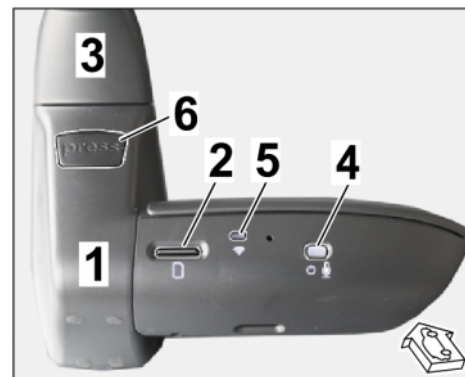

Figure 25
- 5.1.1 Remove micro SD memory card (32 GB, ⇒ *Figure 25 -2-*) from card slot for front camera.
- 5.1.2 With the ignition switched on, push the front camera (dashcam ⇒ *Figure 25 -1-*) on to the retainer plate on the wind-screen (⇒ *Figure 25 -3-*).
- 5.1.3 Press the power button (⇒ *Figure 25 -4-*) for 10 seconds until you hear the second double beeping sound.
- 5.1.4 The front camera (dashcam) starts in Dealer mode: WiFi LED (⇒ *Figure 25 -5-*) lights up "yellow".